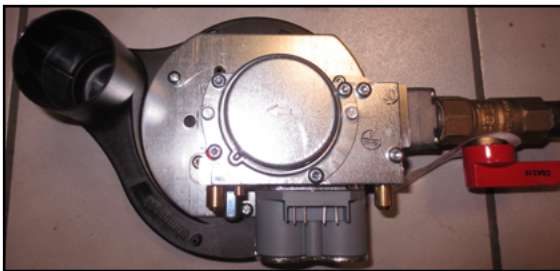

Figure 8 - Combustion Assembly
Step #8 - Use a Phillips Head screwdriver to remove the three (3) screws attaching the gas valve / air inlet adapter to the combustion assembly. See Figure 8.
Step #2 - Use a Phillips Head screwdriver and the three (3) removed screws to install the gas valve / air inlet adapter to the blower assembly. See Figure 8.